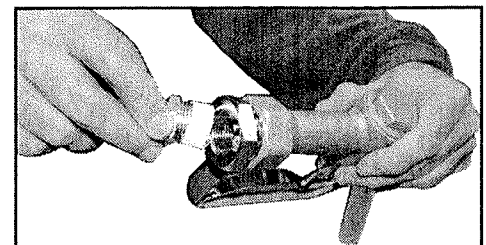

Fig 5
10. Install the dispenser nozzle on the opposite end of the hose and tighten with a wrench. (See Fig. 5)
2. Lay the caddy in the horizontal position. (Do not attempt to transport the caddy in the upright position). (See Fig 5.)